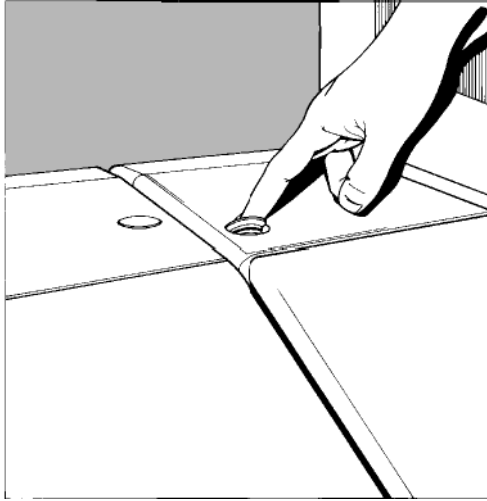

Figure 21 Removing the Inserts
3. Remove the two round inserts from the left-hand side of the top of the main cover (Figure 21). To do this, push down the edge of the insert that is near the back of the Spectrum RX I.